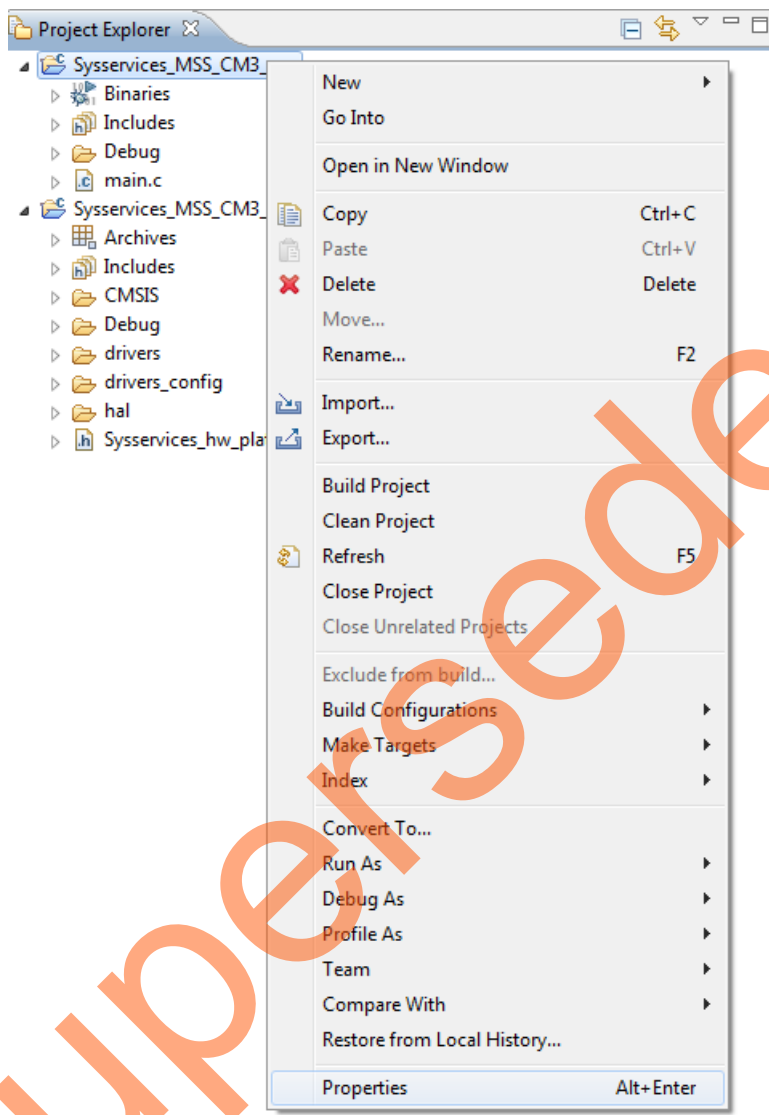

Figure 32 • Project Explorer Window of SoftConsole Project
3. Right-click **Sysservices_MSS_CM3_app** in **Project Explorer** window of SoftConsole project and select **Properties** as shown in Figure 32.